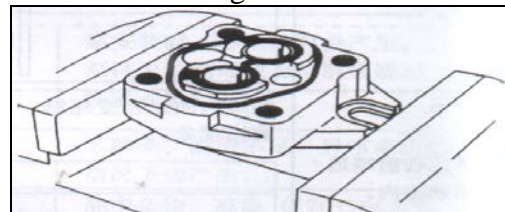

Fig. 5-30
c) Install a new ring on the front cover of the pump. The direction of the installation see Fig. 5-30.